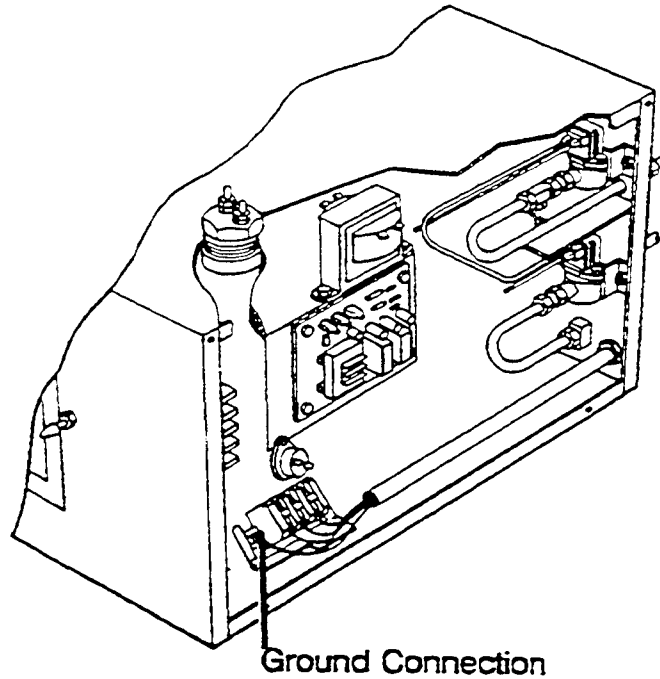

Figure 2-10. Connection Diagram
3. Mechanically secure the flexible conduit to the electrical conduit access hole (Figure 2-10). (See Canadian Wiring Considerations.)
5. Refer to the connection diagram, Figure 2-10, and connect the wires to the terminal block and ground connector accordingly.